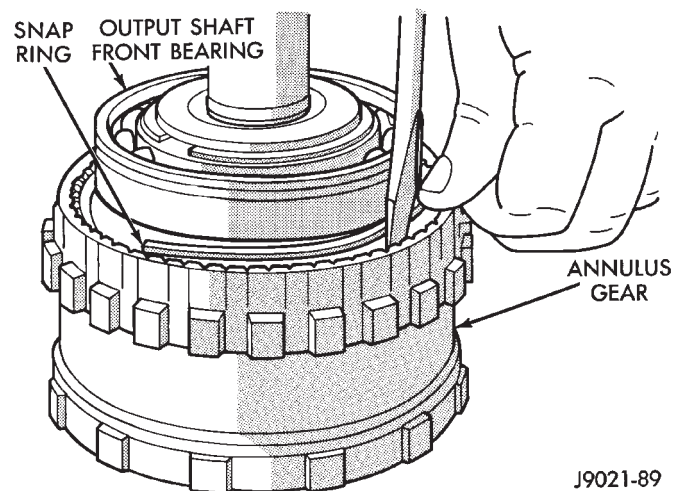

Fig. 211 Annulus Gear Installation
(3) Install annulus gear on output shaft, if removed. Then install annulus gear retaining snap ring (Fig. 211).